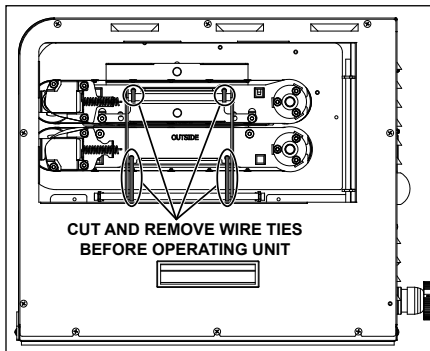

Figure 2. - Removing Wire Ties
8. Unlock and open the side panel according to figure 2. Cut and remove the wire ties indicated in Figure 2.